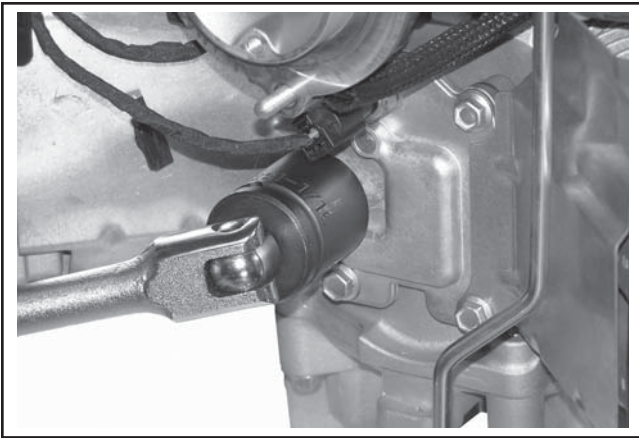

Figure 8-32. Removing Oil Sentry™ Switch.
2. Remove the Oil Sentry™ switch from the breather cover. See Figure 8-32.